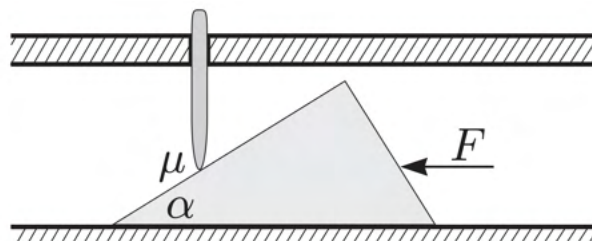

Figure 5: Rod stopping block
4. A wedge with the angle  $\alpha$  at the tip is lying on the horizontal floor, see figure 5. There is a hole with smooth walls in the ceiling. A rod has been inserted snugly into that hole, and it can move up and down without friction, while its axis is fixed to be vertical. The rod is supported against the wedge; the only point with friction is the contact point of the wedge and the rod: the friction coefficient there is  $\mu$ . For which values of  $\mu$  is it possible to push the wedge through, behind the rod, by only applying a sufficiently large horizontal force? (Kalda)